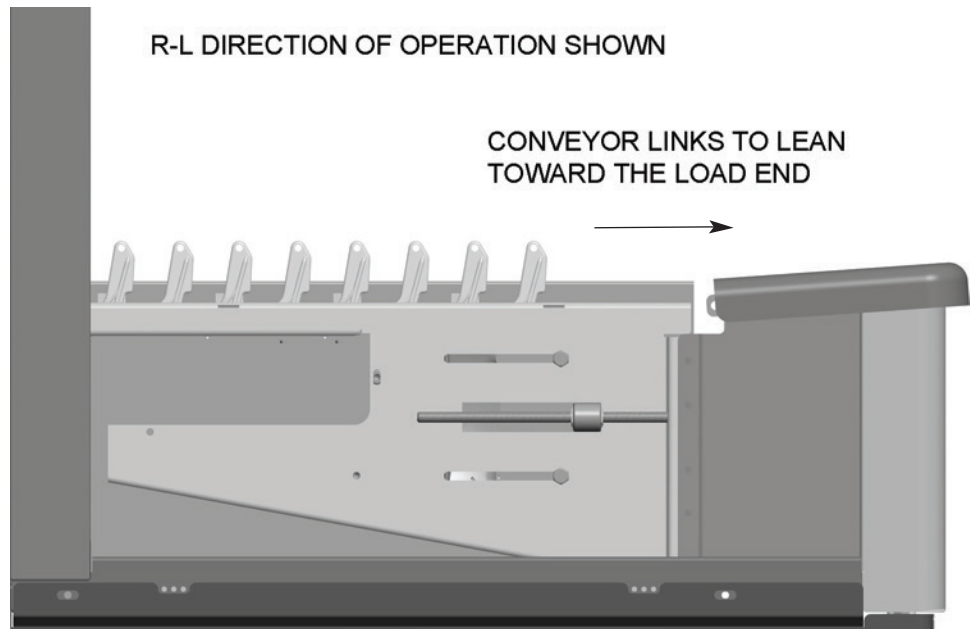

Fig. 37
- Position the first section of conveyor in line with the machine at the load end. The flight links must lean towards the load end of the machine (Fig. 37).